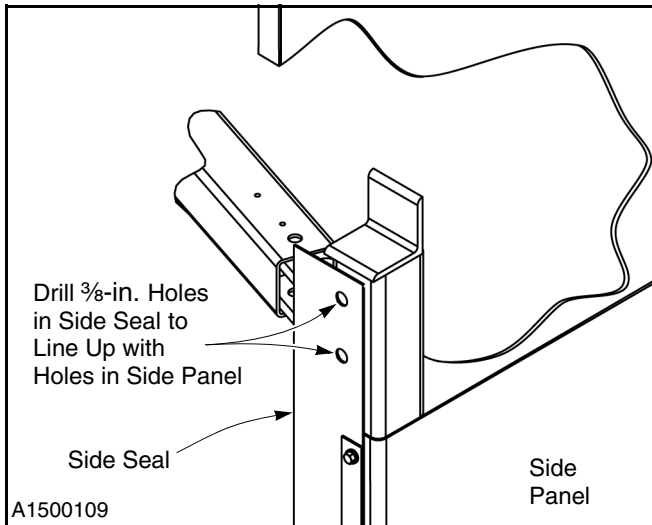

Figure 71
5. Drill two 3/8-in. holes in the new side seal to receive the cap screws that hold the turn arm stop in place. The holes must align with the holes in the side panel. (If possible, use the old seal as a template to locate the holes in the new seal.) (See Figure 71.)